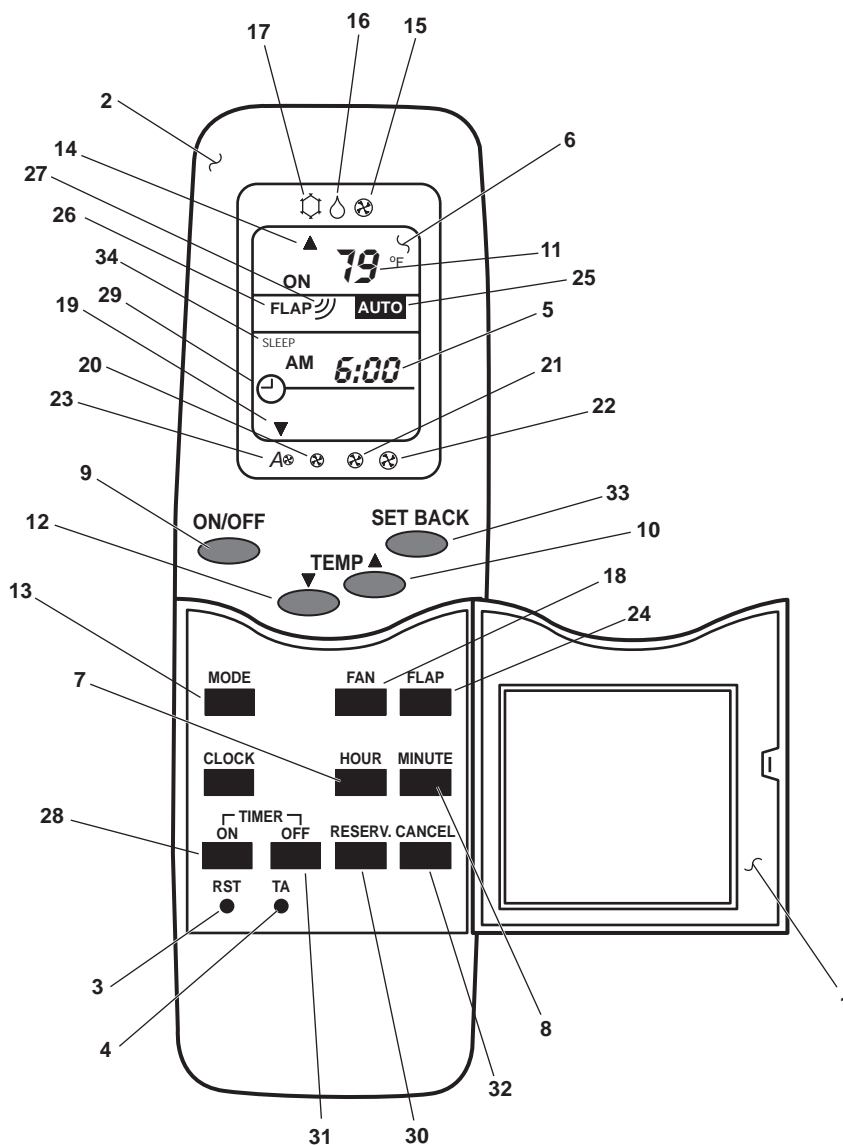
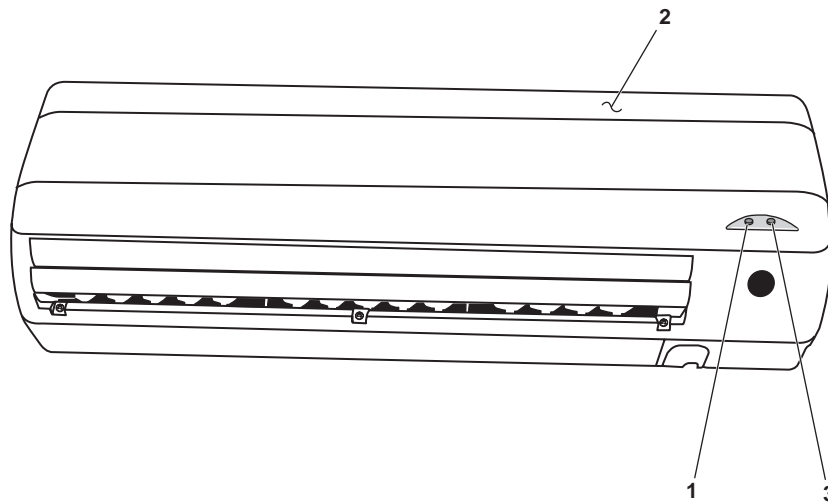

Figure 27. Radio Room Rooftop Air Conditioning Unit Remote Operation
Figure 28. Radio Room Rooftop Air Conditioning Unit (Closed)
8. OPEN the cover (figure 27, item 1) on the front of the radio room rooftop air conditioning unit remote (figure 27, item 2).
9. Press the RST button (figure 27, item 3) on the radio room rooftop air conditioning unit remote (figure 27, item 2).
10. Press the TA button (figure 27, item 4) on the radio room rooftop air conditioning unit remote (figure 27, item 2). 6:00 AM (figure 27, item 5) will be displayed on the Liquid Crystal Display (LCD) (figure 27, item 6).
11. Press the HOUR button (figure 27, item 7) on the radio room rooftop air conditioning unit remote (figure 27, item 2) to set the current hour.
12. Press the MINUTE button (figure 27, item 8) on the radio room rooftop air conditioning unit remote (figure 27, item 2) to set the current minutes.
13. Press the TA button (figure 27, item 4) on the radio room rooftop air conditioning unit remote (figure 27, item 2).
14. Press the ON/OFF button (figure 27, item 9) on the radio room rooftop air conditioning unit remote (figure 27, item 2).
15. Verify that the green UNIT ON INDICATOR (figure 28, item 1) is illuminated on the radio room rooftop air conditioning unit (figure 28, item 2) and that it is operating.
16. CLOSE the cover (figure 27, item 1) on the radio room rooftop air conditioning unit remote (figure 27, item 2).
1. OPEN the cover (figure 27, item 1) on the radio room rooftop air conditioning unit remote (figure 27, item 2).
2. Press the UP arrow button (figure 27, item 10) on the radio room rooftop air conditioning unit remote (figure 27, item 2) to increase the temperature setting (figure 27, item 11) on the LCD (figure 27, item 6).
3. Press the DOWN arrow button (figure 27, item 12) on the radio room rooftop air conditioning unit remote (figure 27, item 2) to decrease the temperature setting (figure 27, item 11) on the LCD (figure 27, item 6).
4. CLOSE the cover (figure 27, item 1) on the radio room rooftop air conditioning unit remote (figure 27, item 2).
2. OPEN the cover (figure 27, item 1) on the radio room rooftop air conditioning unit remote (figure 27, item 2).
3. To select the fan mode, press the MODE button (figure 27, item 13) on the radio room rooftop air conditioning unit remote (figure 27, item 2) until the arrow (figure 27, item 14) on the LCD (figure 27, item 6) is aligned with the fan symbol (figure 27, item 15) on the radio room rooftop air conditioning unit remote.
4. To select the dry mode, press the MODE button (figure 27, item 13) on the radio room rooftop air conditioning unit remote (figure 27, item 2) until the arrow (figure 27, item 14) on the LCD (figure 27, item 6) is aligned with the water droplet symbol (figure 27, item 16) on the radio room rooftop air conditioning unit remote.
5. To select the cool mode, press the MODE button (figure 27, item 13) on the radio room rooftop air conditioning unit remote (figure 27, item 2) until the arrow (figure 27, item 14) on the LCD (figure 27, item 6) is aligned with the snow flake symbol (figure 27, item 17) on the radio room rooftop air conditioning unit remote.
6. CLOSE the cover (figure 27, item 1) on the radio room rooftop air conditioning unit remote (figure 27, item 2).
3. To select the LOW fan speed setting, press the FAN button (figure 27, item 18) until the arrow (figure 27, item 19) on the LCD (figure 27, item 6) is aligned with the small sized fan symbol (figure 27, item 19) on the radio room rooftop air conditioning unit remote (figure 27, item 2).
4. To select the MEDIUM fan speed setting, press the FAN button (figure 27, item 18) until the arrow (figure 27, item 19) on the LCD (figure 27, item 6) is aligned with the medium sized fan symbol (figure 27, item 21) on the radio room rooftop air conditioning unit remote (figure 27, item 2).
5. To select the HIGH fan speed setting, press the FAN button (figure 27, item 18) until the arrow (figure 27, item 19) on the LCD (figure 27, item 6) is aligned with the large sized fan symbol (figure 27, item 22) on the radio room rooftop air conditioning unit remote (figure 27, item 2).
6. To select the AUTO fan speed setting, press the FAN button (figure 27, item 18) until the arrow (figure 27, item 19) on the LCD (figure 27, item 6) is aligned with the A and smallest sized fan symbol (figure 27, item 23) on the radio room rooftop air conditioning unit remote (figure 27, item 2).
7. CLOSE the cover (figure 27, item 1) on the radio room rooftop air conditioning unit remote (figure 27, item 2).
3. To select the AUTO flap setting, press the FLAP button (figure 27, item 24) on the radio room rooftop air conditioning unit remote (figure 27, item 2) until the word AUTO (figure 27, item 25) is displayed on the LCD (figure 27, item 6) next to the word FLAP (figure 27, item 26) and the FLAP symbol (figure 27, item 27).
4. To select the SWING flap setting, press the FLAP button (figure 27, item 24) on the radio room rooftop air conditioning unit remote (figure 27, item 2) until the word SWING replaces the word AUTO (figure 27, item 25) on the LCD (figure 27, item 6) next to the word FLAP (figure 27, item 26) and the FLAP symbol (figure 27, item 27).
5. To select a desired flap setting other than AUTO or SWING, press the FLAP button (figure 27, item 24) on the radio room rooftop air conditioning unit remote (figure 27, item 2) until the FLAP symbol (figure 27, item 27) on the LCD (figure 27, item 6) displays the desired setting.
3. To set the fan unit (figure 28, item 2) to start at a specific time setting, press the ON TIMER button (figure 27, item 28) on the radio room rooftop air conditioning unit remote (figure 27, item 2). The current on timer setting (figure 27, item 5) and temperature setting (figure 27, item 11) will be displayed on the LCD (figure 27, item 6). The ON TIMER symbol (figure 27, item 29) will start flashing.
4. Press the HOUR button (figure 27, item 7) on the radio room rooftop air conditioning unit remote (figure 27, item 2) until the desired start hour (figure 27, item 5) is displayed on the LCD (figure 27, item 6).
5. Press the MINUTE button (figure 27, item 8) on the radio room rooftop air conditioning unit remote (figure 27, item 2) until the desired start minute (figure 27, item 4) is displayed on the LCD (figure 27, item 6).
6. Point the radio room rooftop air conditioning unit remote (figure 27, item 2) at the fan unit (figure 28, item 2) and press the RESERV. button (figure 27, item 30) on the radio room rooftop air conditioning unit remote (figure 27, item 2) until a beep is heard.